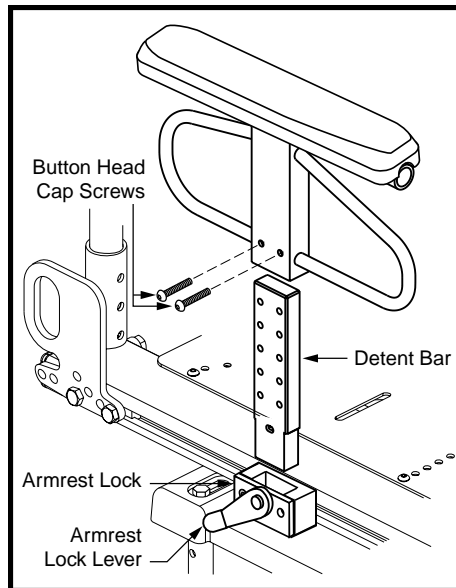

Figure 9. Armrest Height Adjustment
1. Rotate the armrest lock lever rearward and remove the armrest from the armrest lock. See figure 9.
2. Remove the two (2) button head cap screws from the side of the armrest.